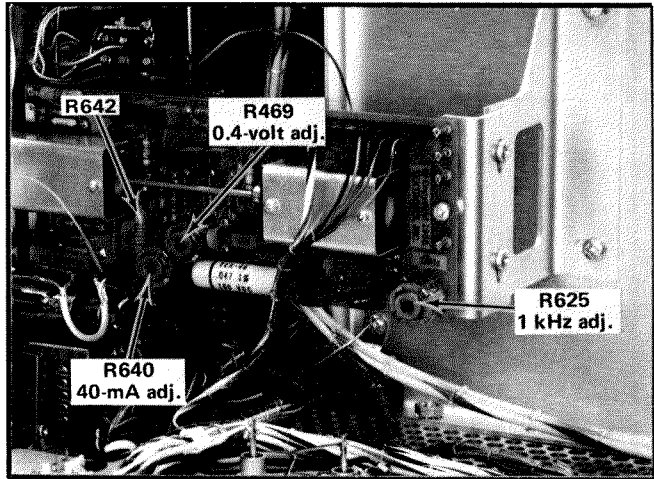

Fig. 5-13. Location of controls and R642 on the Calibrator board.
- f. ADJUST—R649 (see Fig. 5-13) for a meter reading of exactly 0.4 volt DC with the CALIBRATOR VOLTS set to 0.4 V.
- k. ADJUST—1 kHz adjustment R625 (see Fig. 5-13) for minimum drift or no drift of the time markers.
b. Connect the precision DC voltmeter across R642 (see Fig. 5-13).
c. ADJUST—40 mA adjustment R640 (see Fig. 5-13) for a reading on the precision voltmeter of 30.64 volts.